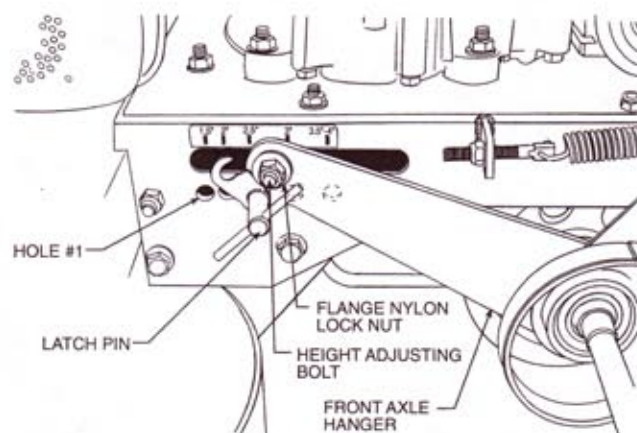

FIG 15 Rear Wheel Height Adjustment
5. On both sides of the Mower, loosen the Lock Nut on Height Adjusting Bolt, turn Latch Pin counterclockwise 1/2 turn and remove. FIG 15.